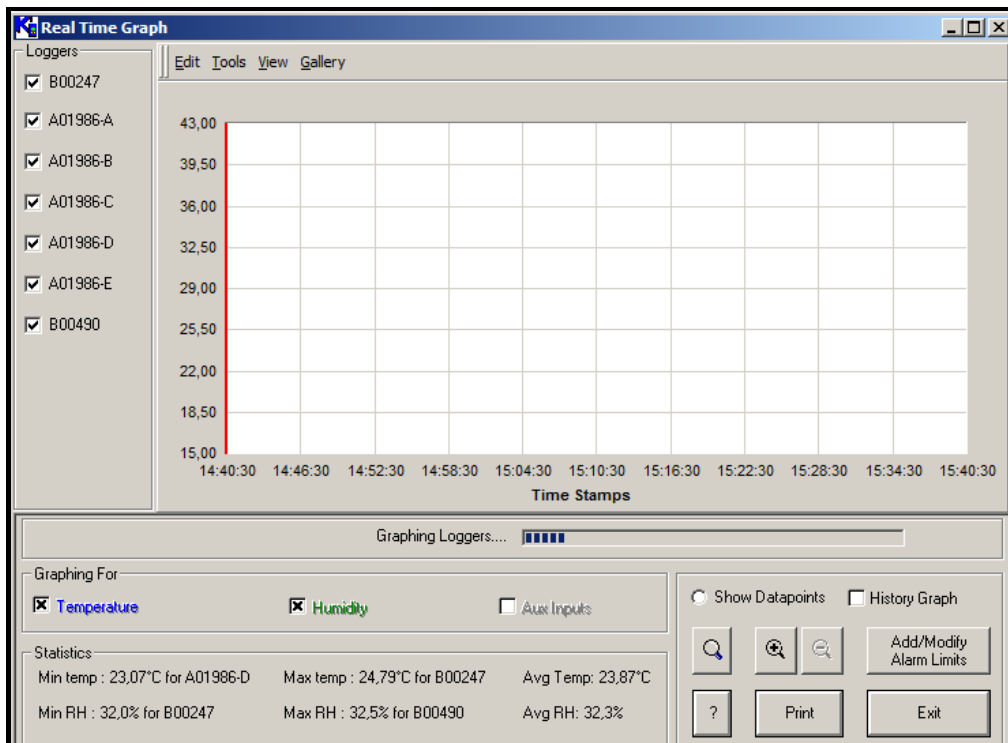

Figure 27: Real-Time Graph Screen
- To view real-time data from one or more Loggers in graph format, highlight one or more Loggers in the list (use Ctrl + click to select two or more Loggers) and click on the Graph Sensors button or click **File>Graph Sensors** from the File menu. A blank graph screen appears, similar to Figure 27 below.